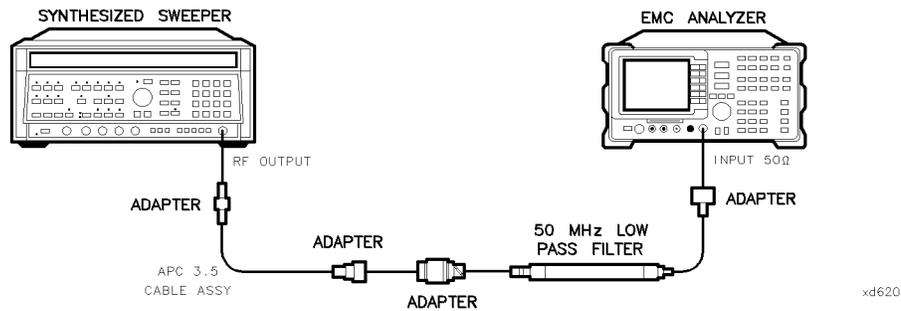

Figure 2-48. Second Harmonic Distortion Test Setup, HP 8595EM
2. Connect the equipment as shown in Figure 2-48.